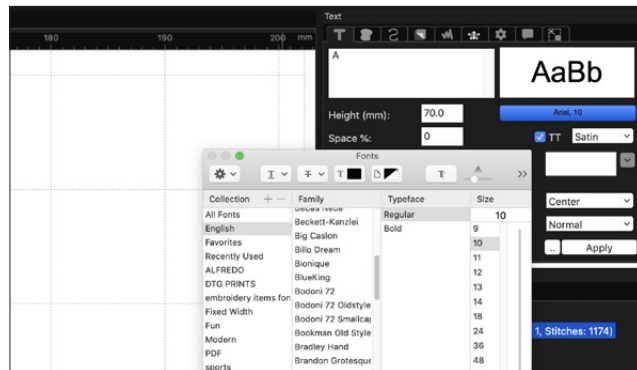

Figure 46
If you wish to use fonts installed on your computer, select the True Type (TT) fonts checkbox. Then, click on the box above the True Type checkbox to scroll through the font options. **See Figure 46.**